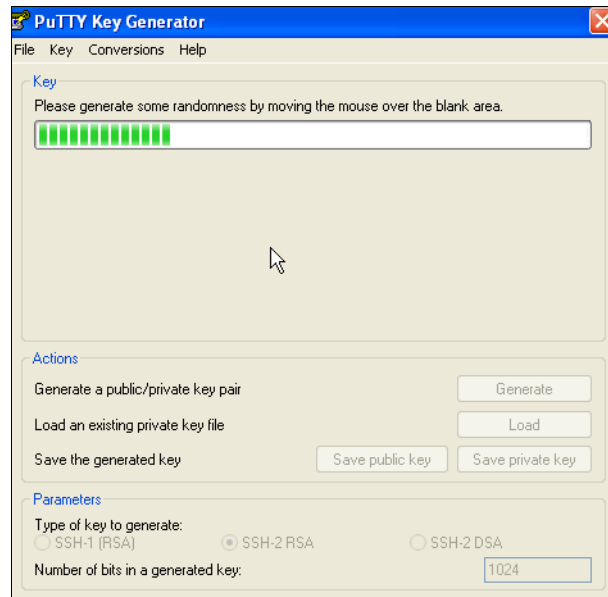

Figure A-2 Generate keys
2. Click **Generate** and move the cursor over the blank area to generate the keys, as shown in Figure A-2.